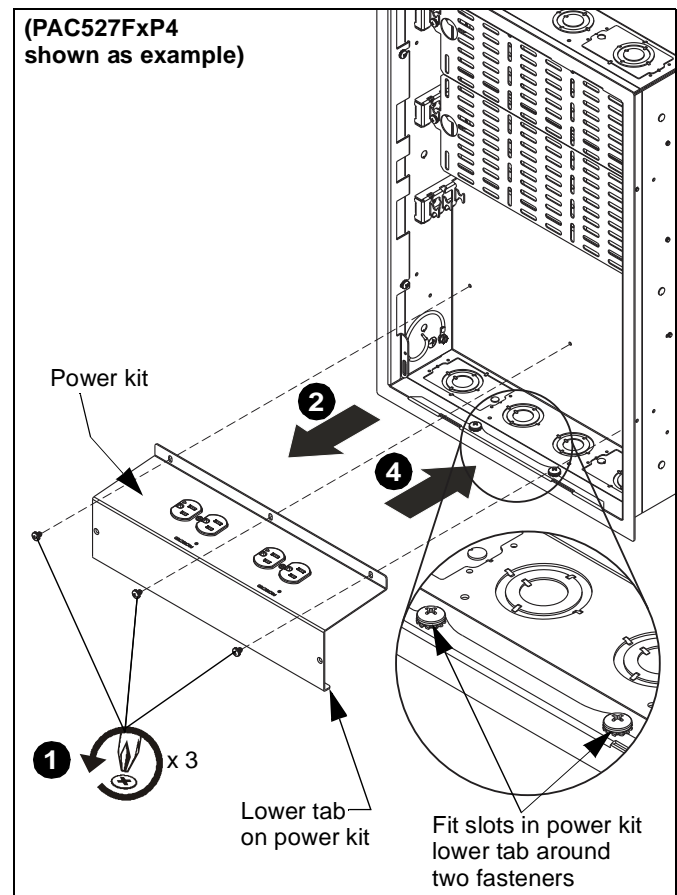
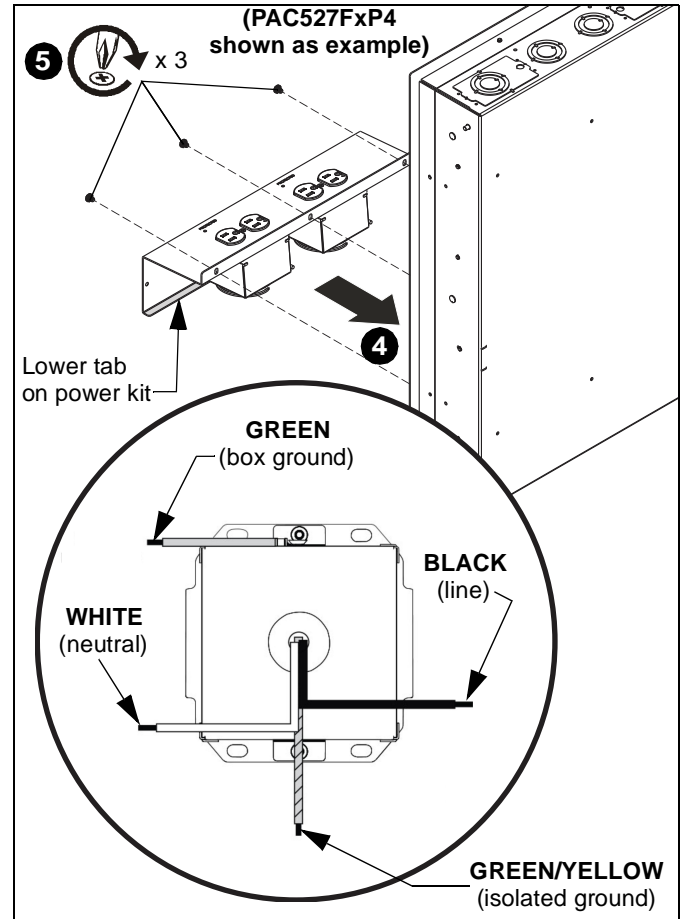

Figure 1
Figure 2
1. Remove and save three Phillips head screws holding power kit within box. (See Figure 1)
2. Remove the power kit from the in-wall box. (See Figure 1)
- Wire the outlet box(es) as required. Refer to Table 1 and Table 2 for input and output specifications. (See Figure 2)
- Replace the power kit in the PAC527, fitting the two slots in the power kit lower tab around two fasteners in the PAC527. (See Figure 1) and (See Figure 2)
- Tighten three Phillips screws to secure power kit in the PAC527. (See Figure 2)